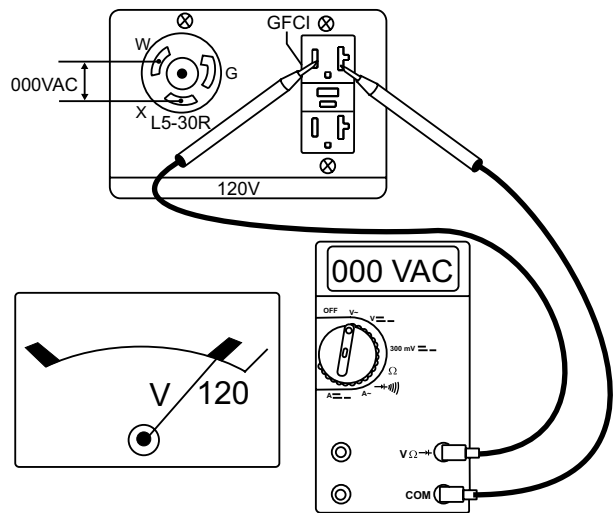

Figure 40. 120V Twist-Lock/GFCI Receptacles (GFCI Test)
5. Use an external voltmeter as shown in Figure 40, and verify that no voltage (zero) is present at the 120V twist-lock and GFCI duplex receptacles.